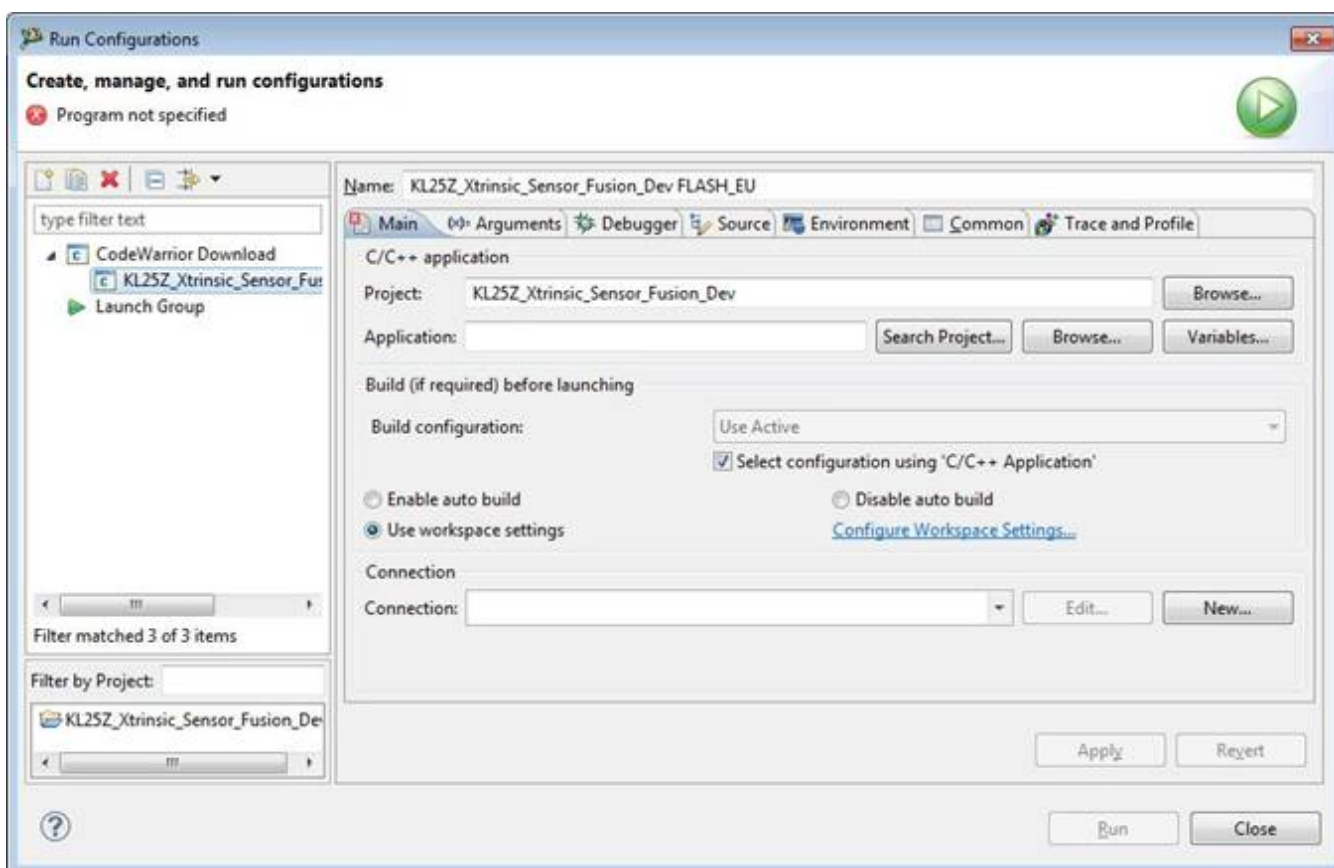

Figure A-2. CodeWarrior creating new launch configuration
2. Select **CodeWarrior Download** and then click the **New Launch Configuration** icon on the left, see Figure A-2.
3. Click the **New...** button to the right of the Connection field, see Figure A-2.